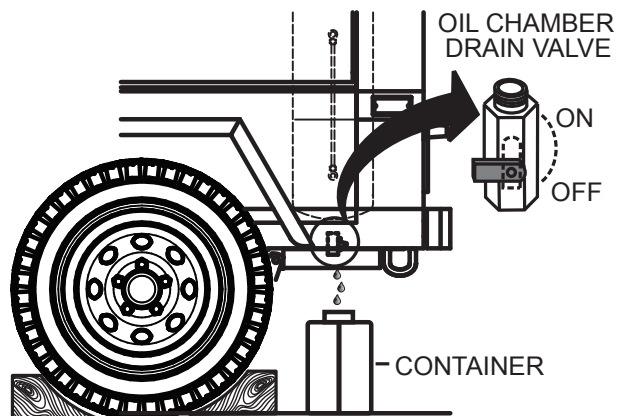

Figure 14. Oil Chamber Drainage
1. Place a drain pan/container underneath oil chamber drain valve (street-side) as shown in Figure 14.
2. Open the oil chamber drain valve (Figure 14) slightly and let contents flow (drain) until oil is visible. Once oil is visible, close drain valve immediately.